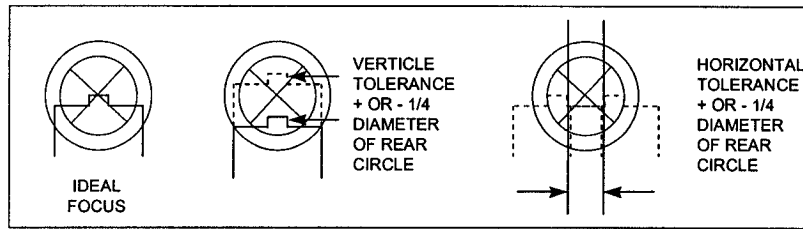

Figure 2-11
- j. If the focus fixture is above the sighting marks, turn each focus knob two (2) or three (3) more complete turns until it is either below or right on.
- l. Observe the focus fixture. Is it right or left or low? If so, turn only the third focus knob until the focus fixture is centered See Figure 2-11.